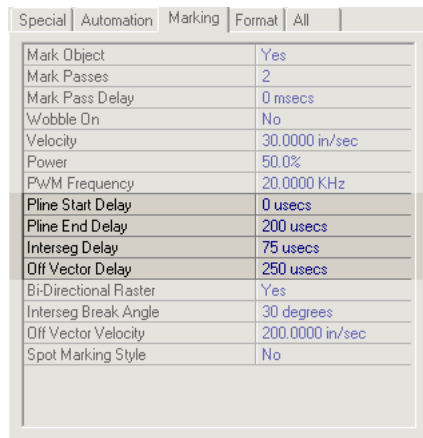

Figure 16-6 Delay settings
- 3 Scroll down to the delay section shown in Figure 16-6.